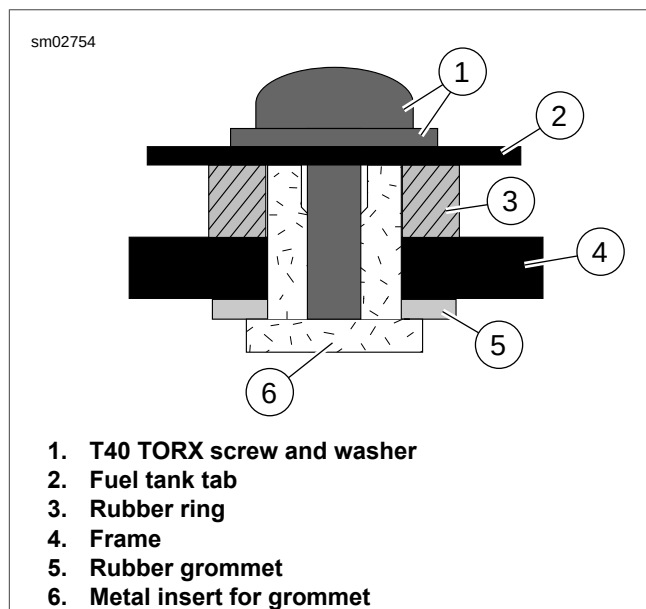

Figure 4-11. Rear Tank Screw
- b. See Figure 4-11. Verify that rubber grommet (5) and metal insert (6) are protruding through frame (4). Metal insert has flats on bottom for positioning. Place rubber ring (3) around grommet/insert and lower fuel tank tab (2).
- c. Install washer and rear screw (1) through fuel tank tab. Tighten to 18-22 ft-lbs (24.4-29.8 Nm).